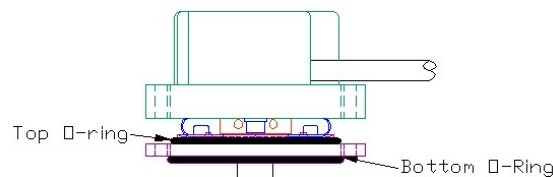

FIG. 2
**Step 2.** Slide the encoder assembly over the motor shaft and into place, being careful not to displace either of the two O-rings in the assembly, as shown in Figure 2.